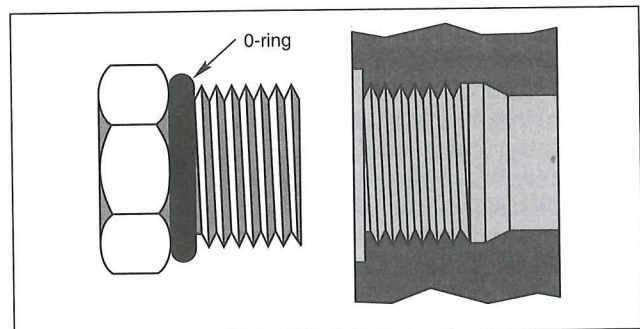

Fig. 9-30 — The straight-thread port seals with an O-ring between threads and wrench flats.
**SAE straight-thread.** This port, Fig. 9-30, seals with an O-ring between threads and wrench flats. It is the best "leak-free" port for smaller sizes, suitable for 6,000 psi service.